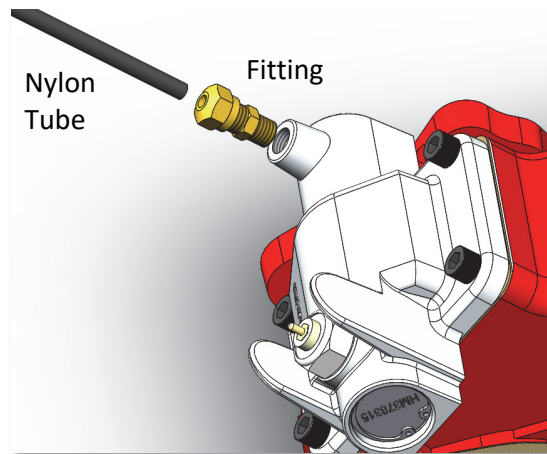

Fig. 12
6. Screw the air fitting into the shift cover (Fig. 12).
7. Install the nylon tubing that comes from the cabin control valve into the fitting (Fig. 12)